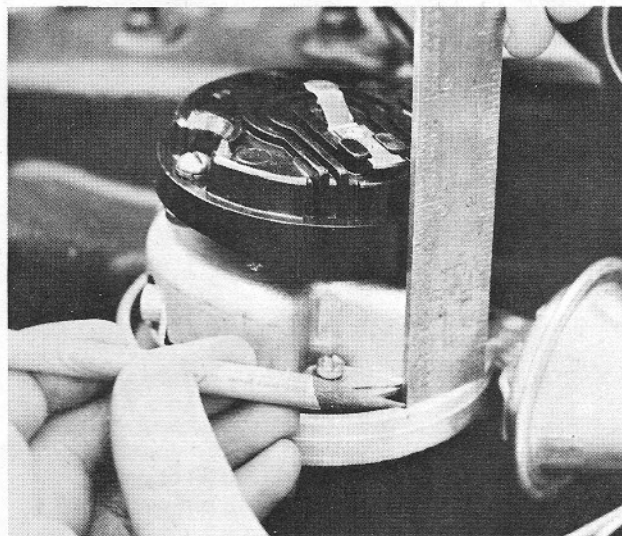

Figure 19
6. Note position of rotor in relation to distributor housing. Mark this location on edge of housing (Figure 19).